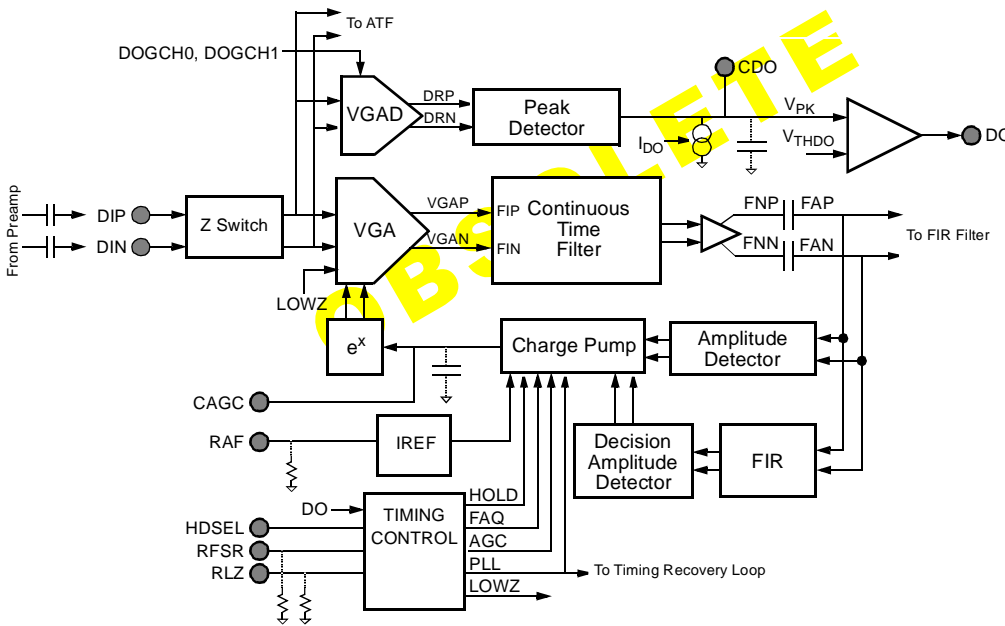

Figure 125 Gain Control Block Diagram
The Gain Control section of the VM65011 consists of a wide-band variable gain amplifier (VGA) with an input impedance switch, a programmable continuous time filter, charge pump, amplitude detector, and exponentiator. A block diagram is shown in Figure 125. The Gain Control has two modes: automatic (AGC), and programmable (PGC) gain control. The mode of the Gain Control is selected by the PGCEN control register bit such that PGCEN='0' defines the AGC mode and PGCEN='1' defines PGC mode. Gain Control is active during Read mode (RM) or Idle mode, defined by setting the WG pin to a '0'.
In parallel with the normal signal path is a separate analog signal path for detecting signal "dropouts". The dropout detector, shown in Figure 125, consists of a variable gain amplifier (VGAD) with programmable gain followed by a peak detector with an external holding capacitor, C_{DO} , and internal decay current I_{DO} . The signal envelope, V_{PK} , is compared to a fixed threshold, V_{THDO} which equals 0.25V. V_{PK} is set via the 4-bit programmable VGAD gain and should be nominally set to 0.5V, which is 6dB above V_{THDO} . Note that both V_{PK} and V_{THDO} are single-ended peak voltages which are equal to one fourth their peak-to-peak differential equivalents. When the signal envelope decays below V_{THDO} , indicating that the input level is half its normal value, the DO pin goes high. This should only occur when the scanner switches heads between the end of one track and the beginning of another, or between tracks when in search mode. This condition is referred to as a dropout and is used to initiate a new read cycle as illustrated in Figure 127. The decay rate is determined by C_{DO} and a 2-bit programmable decay current, I_{DO} , given by